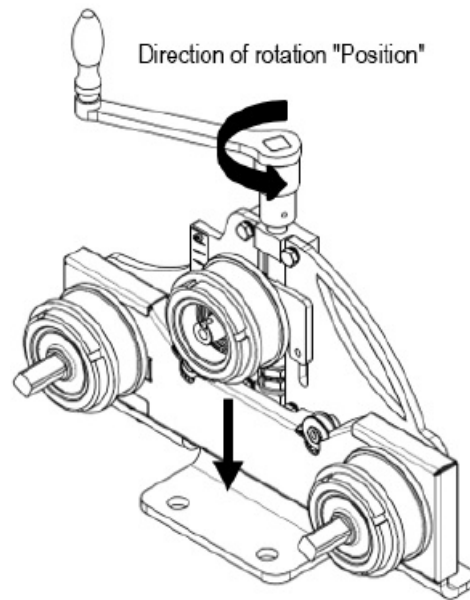
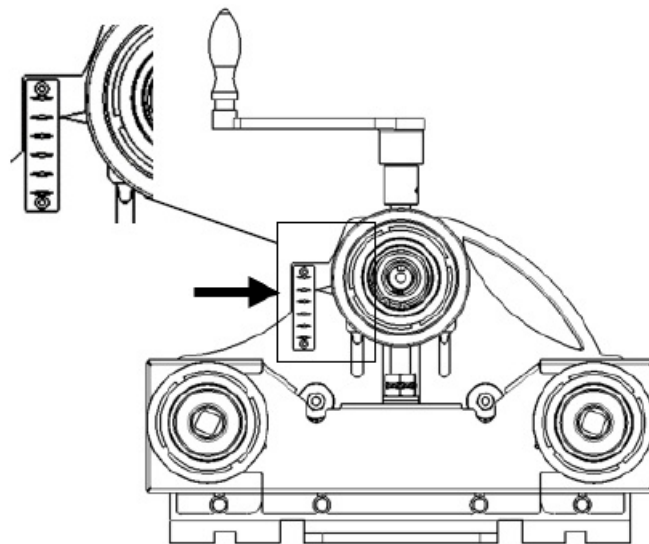

Fig. 12: Position of bending roller (illustration with bending rollers for horizontal bends)
Fig. 13: Adjustment before start of bending (illustration with bending rollers for vertical inner bends)
- At the beginning, the arrow at the diamond scale (to the left of the upper roll) should be on the 2nd diamond from the top (see Fig. 12 and Fig. 13).
- The desired radius is achieved by the gradual positioning of the bending roller. From a radius of approx. 4 m with approx. one crank rotation, and for radii smaller than 4 m with max. ½ crank rotation (see Fig. 12 and Fig. 13).